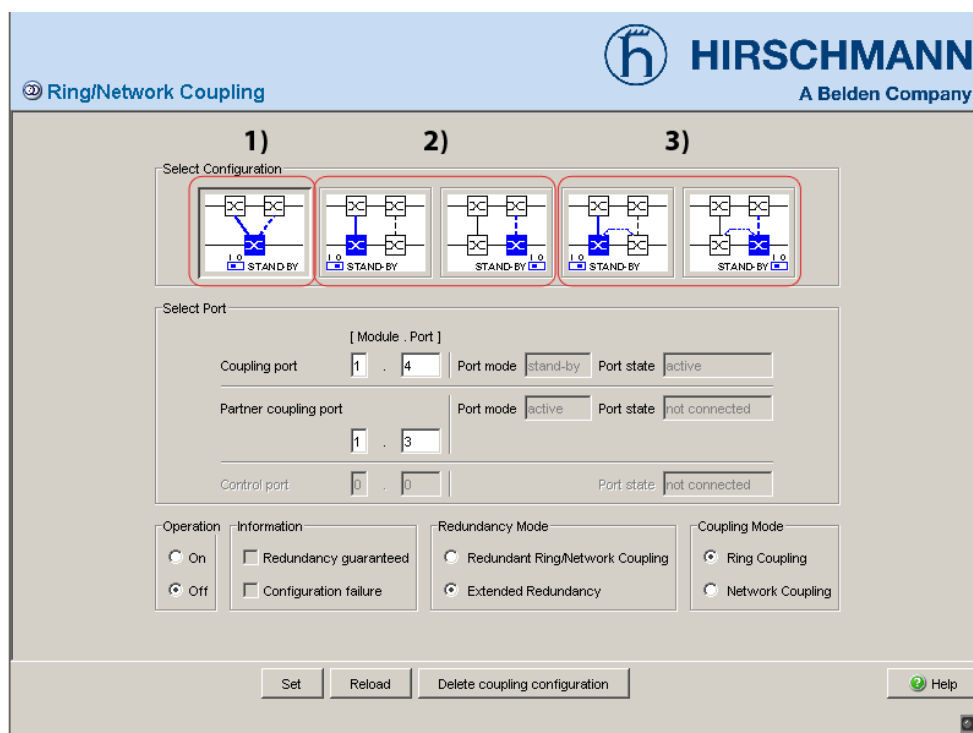

Figure 6: Selecting the configuration
- ☐ You first select the configuration you want: One-Switch coupling ("1"), two-Switch coupling ("2") or two-Switch coupling with control line ("3"), (see fig. 6).